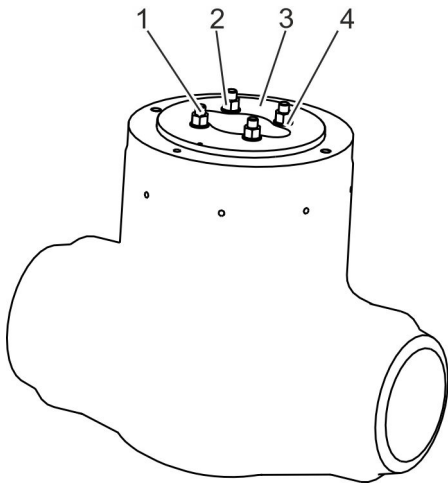

Fig. 14: Bolting the clamping lid
- 28.** Loosely screw together the clamping lid (Fig. 14/3) with washers and nuts (Fig. 14/2) onto the stud bolts (Fig. 14/1) of the cover.